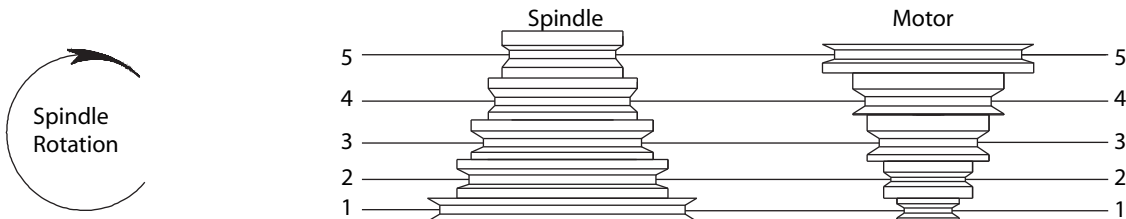

Figure 4 – Spindle Speed Adjustment
Refer to Figures 4 and 6.
- To change spindle speed, loosen both motor lock handles (Ref. No. 32), on the right side of the head and push the motor toward front of drill press. This will loosen the belt and permit relocating the belt to the desired pulley groove for the required spindle speed (See Figure 4).